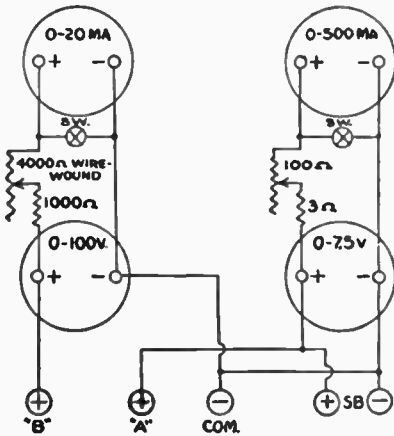

Fig. 708
A. The circuit requested is shown in Fig. 708. The two switches marked SW should be of the instantaneous type and should keep the circuit closed, except when thrown and held over. This will protect the meter.